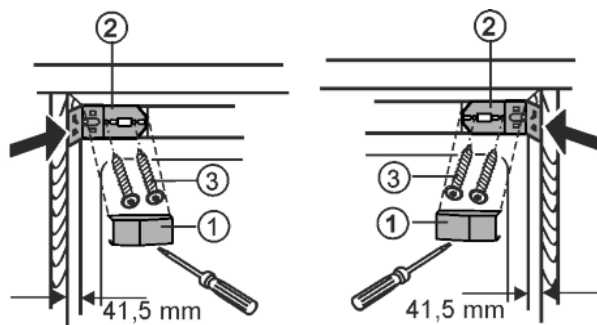
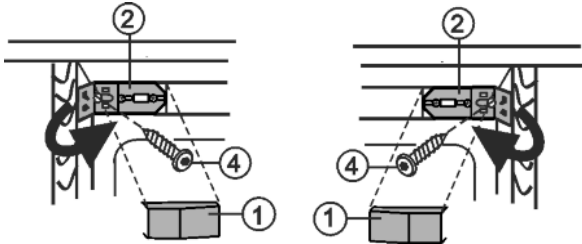

Fig. 11
Fig. 16
- Remove the cover Fig. 11 (1) at the top right and left.
- Screw in the fixing bracket Fig. 11 (2) loosely on the right and left with screws Fig. 11 (3).
- Fasten the appliance on the right and left with screws Fig. 16 (4) on the side wall of the unit. Tighten the screw Fig. 11 (3) fully.
- Fold up the side part of the mounting bracket Fig. 16 (2) and lock it in place.
- Snap the cover Fig. 16 (1) back into place.